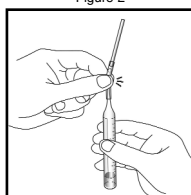

Figure 3
3. Gently snap the tip of the glass ampoule at the white ring nearest the end of the tapered tip (fig. 3).